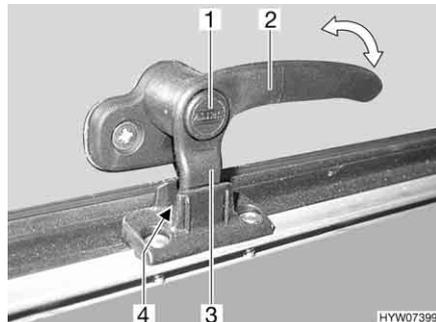
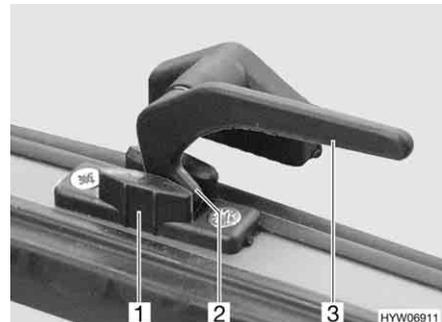

Fig. 95 Catch lever with safety knob in "continuous ventilation" position
Fig. 96 Catch lever in the "continuous ventilation" position
- "Continuous ventilation" (Fig. 95 and Fig. 96)
- Press and hold the security button (Fig. 95,1), if present.
- Turn the catch lever (Fig. 95,2 or Fig. 96,3) a quarter turn towards the centre of the window.
- Return the catch lever to its initial position. Move the locking catch (Fig. 95,3 or Fig. 96,2) on the catch lever into the recess of the window catch (Fig. 95,4 or Fig. 96,1).